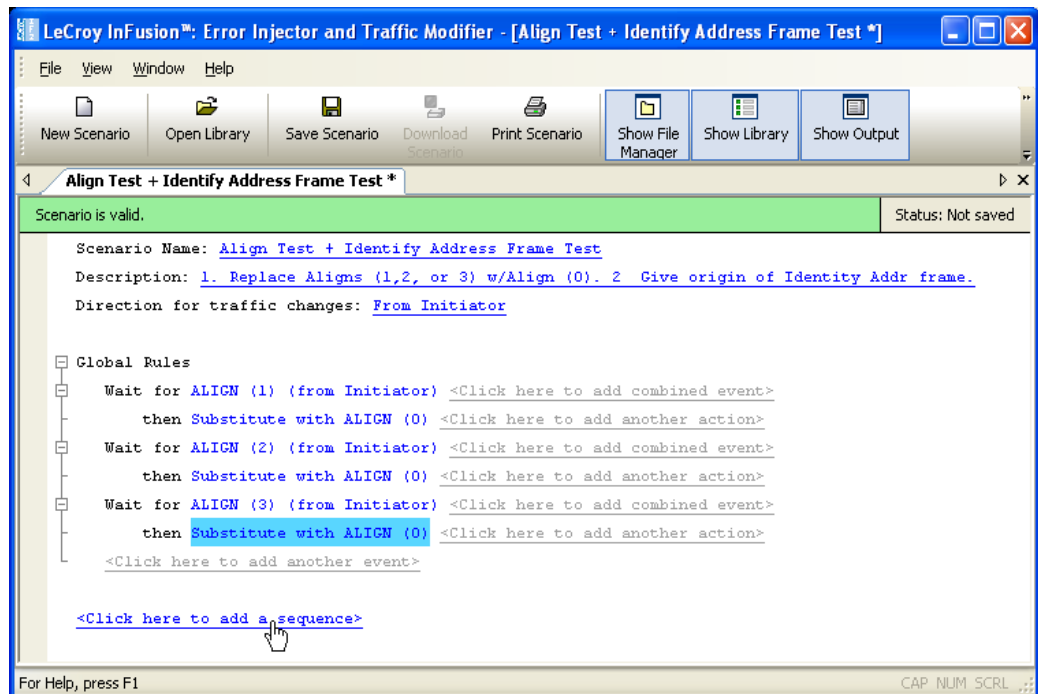

Figure 74 Example 7: Adding the First Sequence
Step 2 As in previous examples, create the Global Rules area as shown in Figure 74.